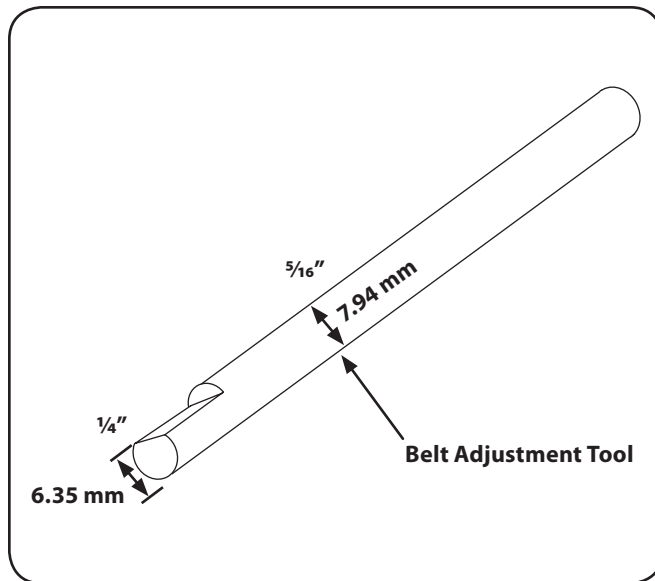

Figure 6-12
- Before taking a measurement, be sure the linkages and pivot points on the Wheels/Tines/PTO Drive Lever are clean and lubricated. If there is any binding, you won't get true measurements. Also, you'll need the belt adjustment tool you received with your new tiller. See Fig. 6-12.